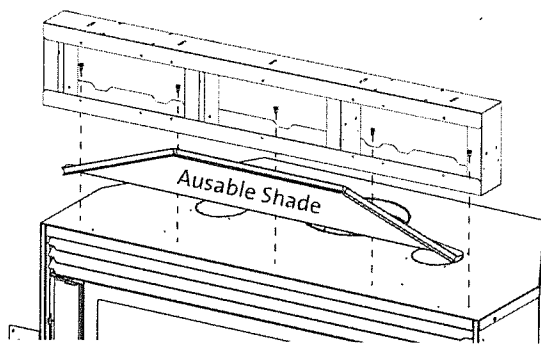

Figure 4.6 Attaching the Stand-off assembly and Ausable Shade to the cabinet.
- D. Attach the assembly to the top of the fireplace cabinet. **AUSABLE DOORS ONLY:** Insert the Ausable Shade under the Header Stand-off and secure both together to top of the fireplace cabinet. Fig. 4.6